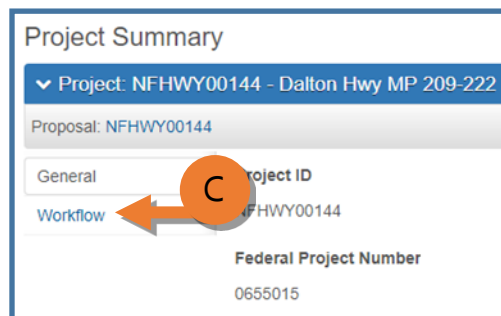

Figure 3.7
Once the above detailed steps for either starting a project from scratch or initiating a project transferred from MRS, contact your Design Manager who will log into AWP in the **Proposal User** role to change the workflow phase to **Proj Design & Review** (Figure 3.5 - Figure 3.7). The project will remain in this workflow phase until the PS&E package has gone through review and is ready to be added to a letting to be advertised.
4. (C) From the Project Summary component, select the **Workflow** tab (Figure 3.7).